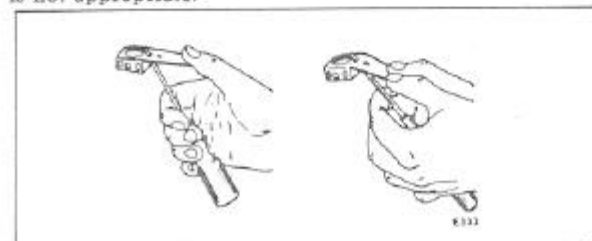
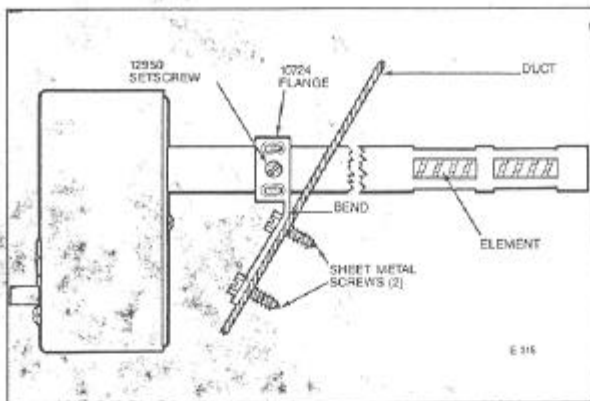
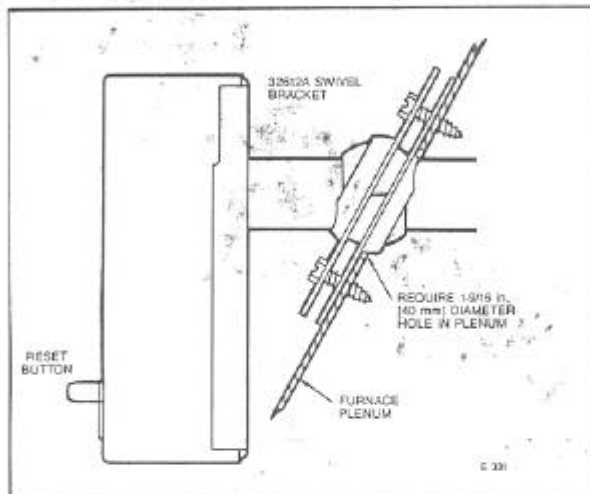

FIG. 4 — BENDING RIGID BRACKET FOR SLOPING SURFACE MOUNTING.
FIG. 5 — RIGID BRACKET MOUNTING ON SLOPING SURFACE.
FIG. 6 — SWIVEL BRACKET MOUNTING ON SLOPING SURFACE.
2. To assure level element when control is mounted, bend rigid bracket as shown in Fig. 4 and mount as shown in Fig. 5. A swivel bracket (Fig. 6) can be used where rigid bracket is not appropriate.